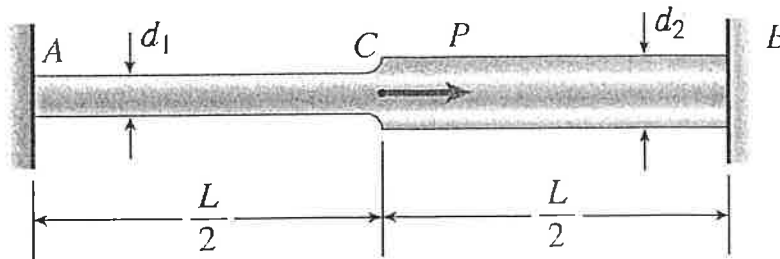

Figure 1
1. A stepped bar ACB with square cross sections is held between rigid supports and loaded by an axial force P at midlength (see Figure 1). The width for the two parts of the bar are $b_1 = d_1 = 20$ mm and $b_2 = d_2 = 40$ mm, and the material is elastoplastic with yield stress $\sigma_y = 250$ MPa. Determine the plastic load P_p . (20%)